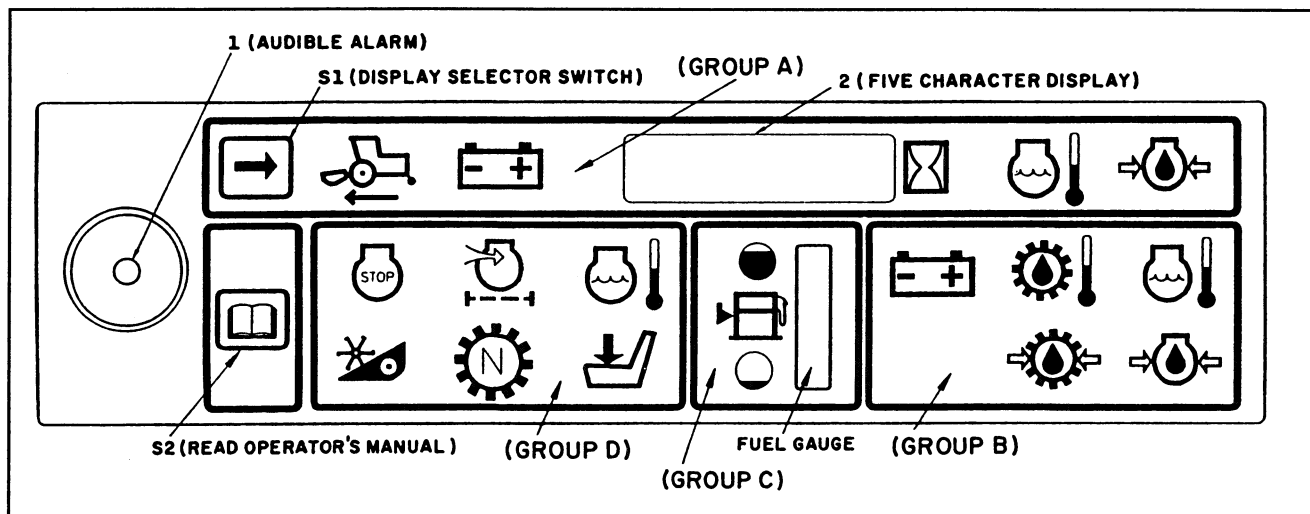

Figure 1-11
The front panel of the instrument cluster has several components and display areas. (Refer To Figure 1-11)
1. Enter the configuration mode by pressing and holding switches S1 and S2, Figure 1-11, while turning the ignition key to the "ON" position. When a "C" appears in the left corner of the display, you are in the configuration mode and switches S1 and S2 may be released.